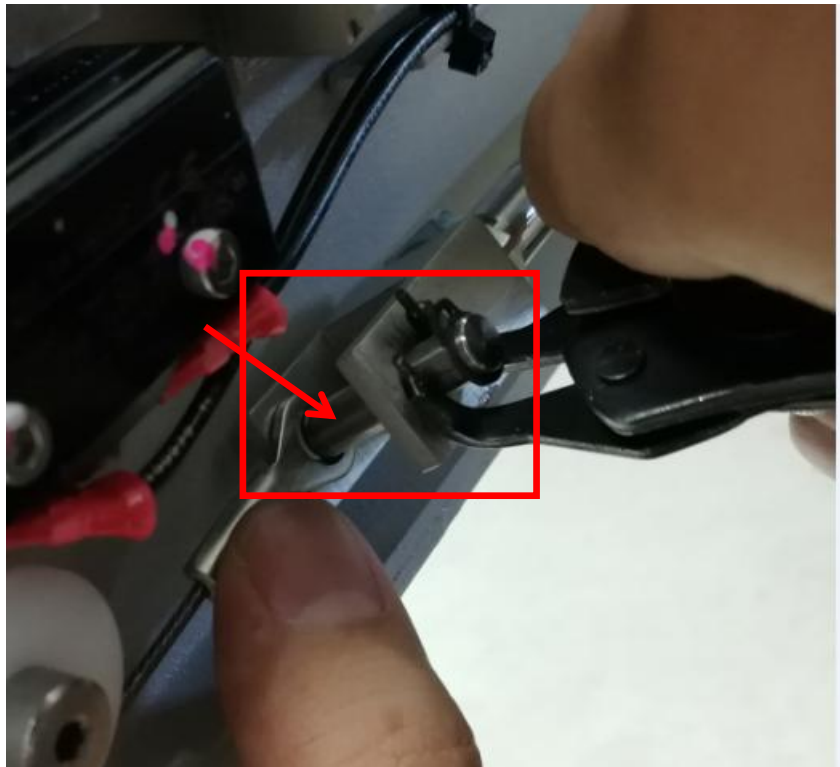

Figure 7
11. Twist the Front Extension Block and gently push out the dowel pin as Figure 7.